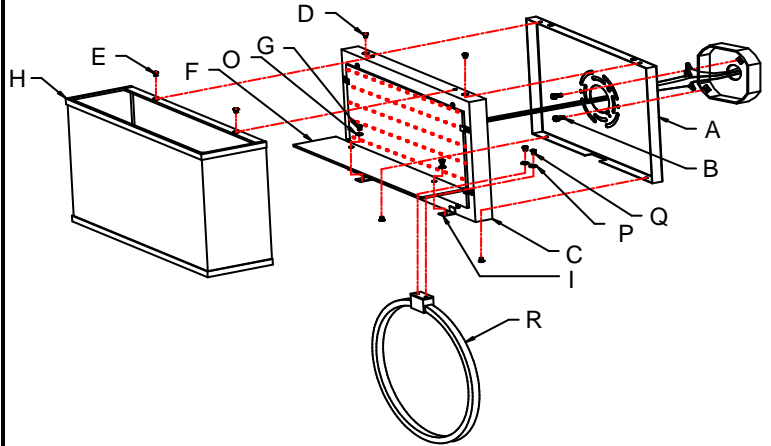

Fig. 2
## CONNECTING THE WIRES (FIG. 2)
5. At this point, connect the electrical wires as shown in Fig. 2, making sure that all wire connectors are secured. If your outlet has a ground wire (green or bare copper), connect the fixtures ground wire to it. Otherwise, connect the fixture ground wire directly to the mounting plate (A) using the green screw provided. After wires are connected, tuck them carefully inside the junction box.
6. Align fixture back plate (C) onto mounting plate (A) and secure with screws (D).